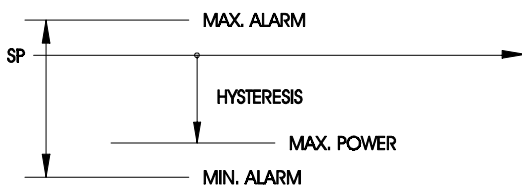

Fig. 2
- **CH=1: inverse action, heating, increasing pressure:** the stage capacity increases if the input signal from the process variable - temperature or pressure - decreases (input signal). Fig. 2